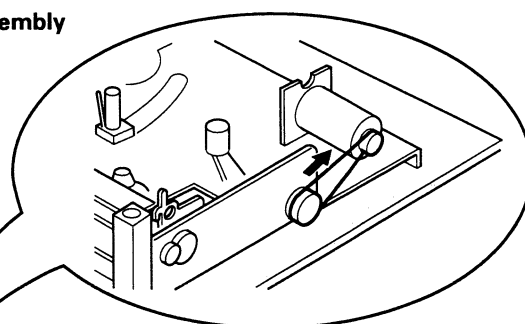
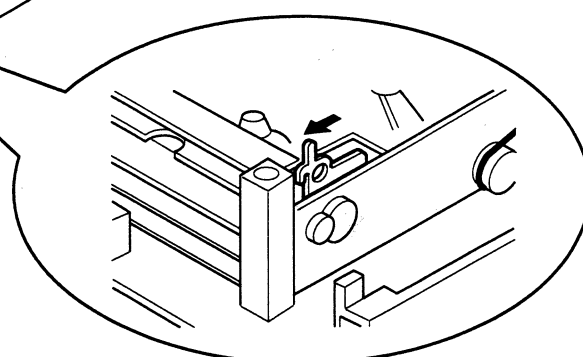

Fig. 2
Fig. 3
Turn the loading motor pulley in the direction as indicated by Fig.2. As both (A) and (B) levers are lodged twice, push the levers in the direction as indicated by Fig.3 to release them. When pushing the levers, do it in the order of (A)(B)(B)(A). When the holder has been lowered, turn the pulley until the cassette holder is securely in place without allowing any up/down movement.